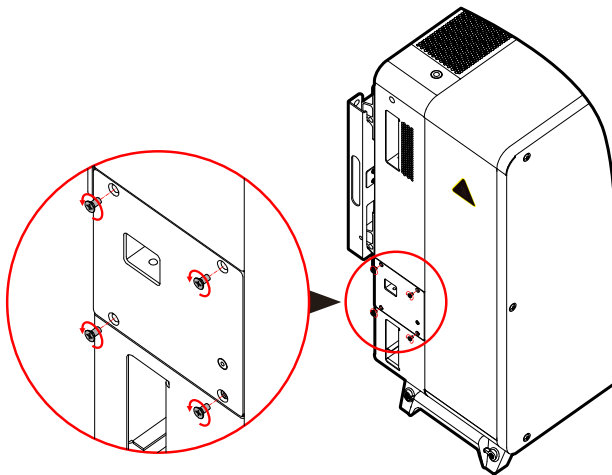

Figure5-1 Loosen the screws of fan cover
- Step 2 Loosen the screws of fan module at the left side of inverter, as shown in Figure5-1.